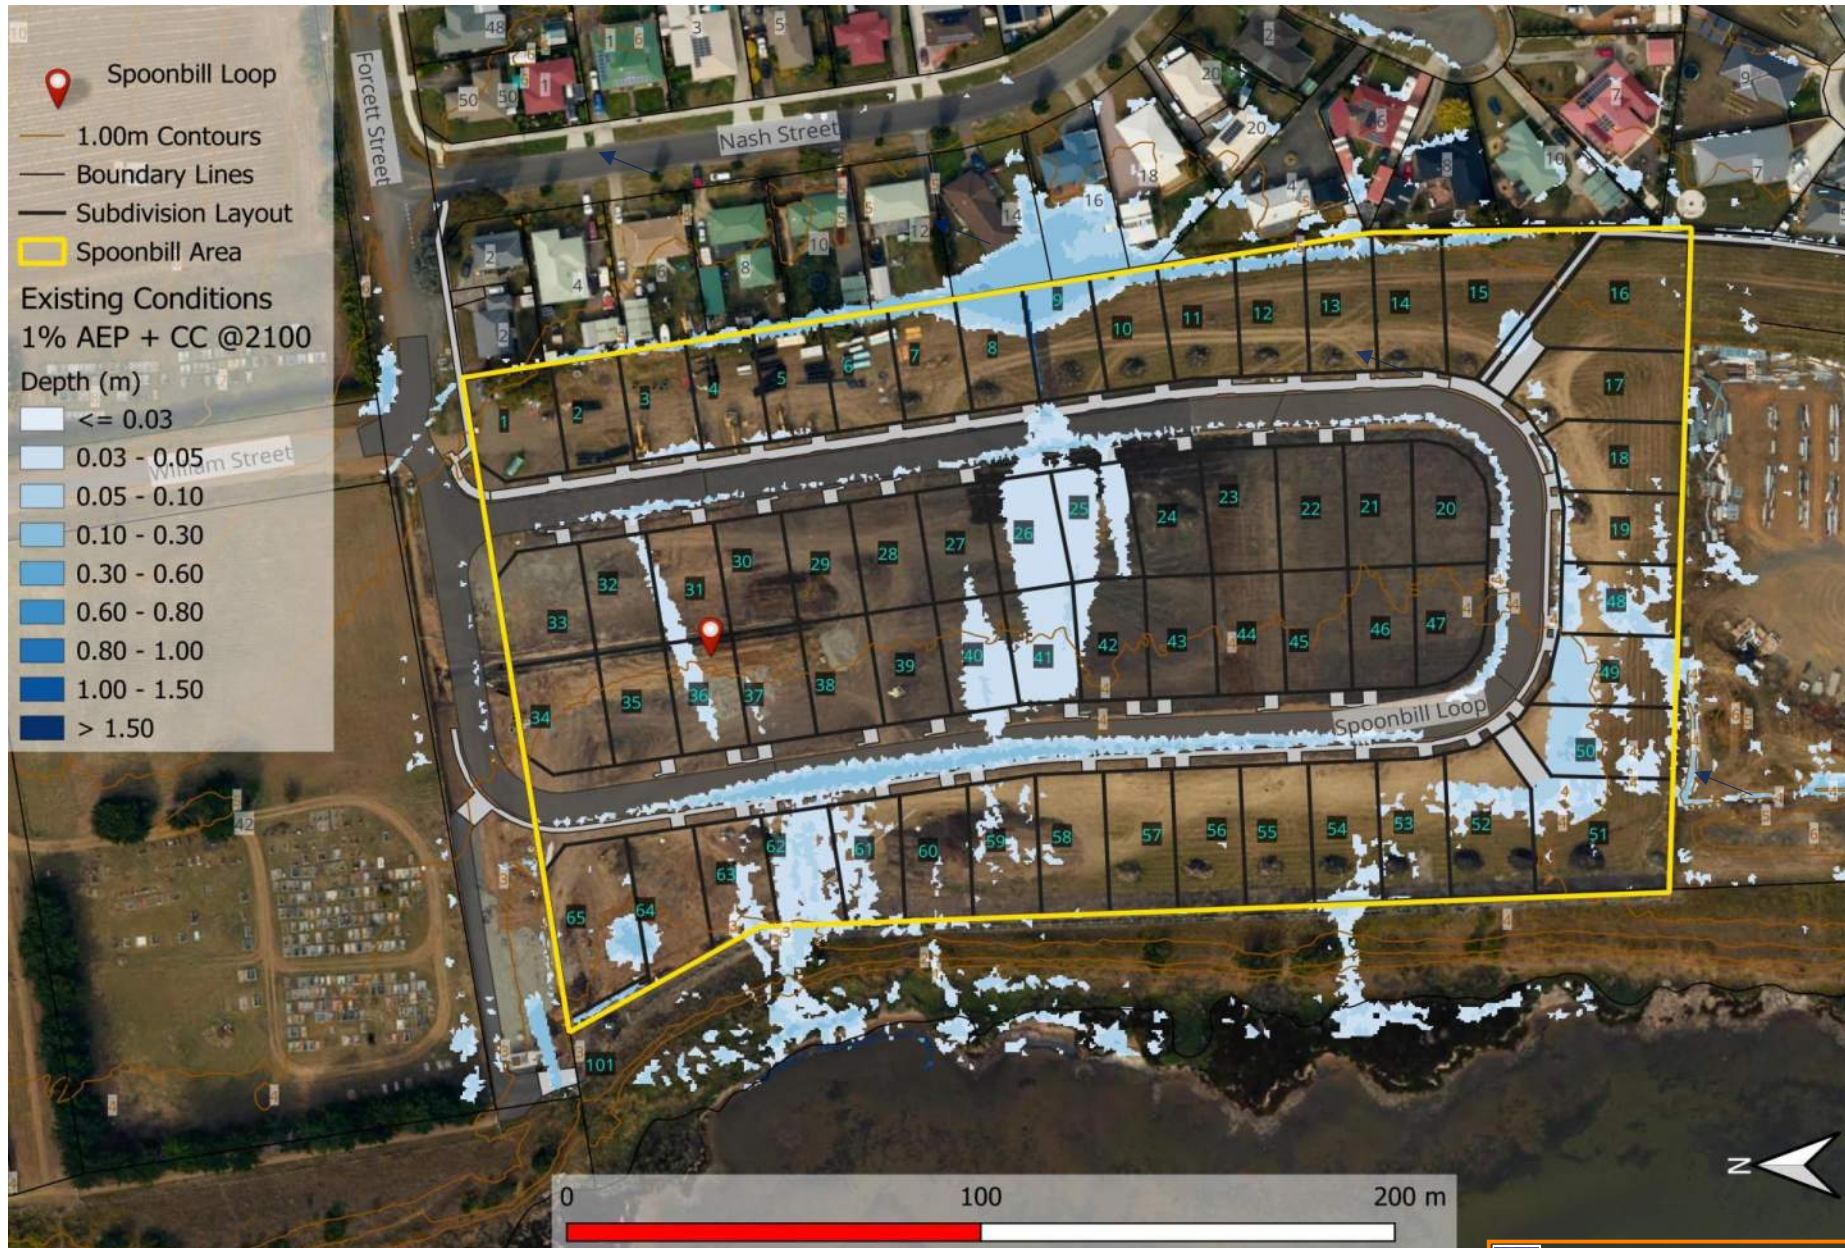

Figure 4. Pre-Development 1% AEP + CC Depth.
The results obtained from running the 1% AEP (Annual Exceedance Probability) combined with climate change (CC) simulations were applied to the existing subdivision development model scenario. Through an examination of the model runs (refer to Figure 4), it becomes evident that a shallow overland flood path originates from the eastern boundary behind Nash Street, with maximum flood depths reaching 0.15 meters observed at Lot 8 and Lot 9. The variability in maximum flood depths is notable within the lots, ranging from 0.03 meters to 0.15 meters within the confines of the existing subdivision development.
Figure 4 solely depicts the maximum flood extent across the entire subdivision. The dewatering process for the displayed overland flow areas is anticipated to occur swiftly, facilitated by the absence of significant barriers or impediments hindering the ingress of flow forces into the underground pipe system. Ultimately, these flow forces discharge into the nearby Orielson Lagoon without obstruction.